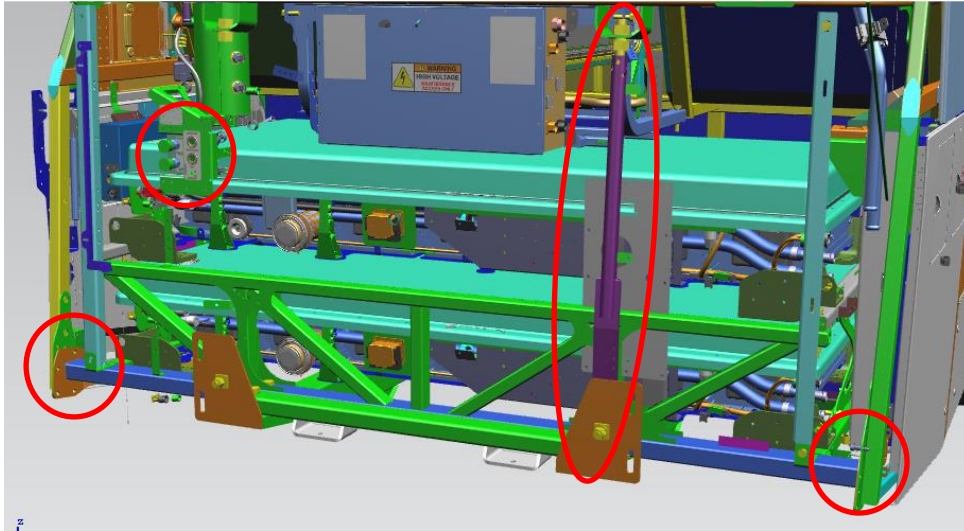

Figure 7: Rear Struts and Side Structure Hardware Removal
14. Remove the hardware between the bumper beam and side structure. See Figure 7.
15. Remove the street side and curbside struts as follows: See Figure 7.